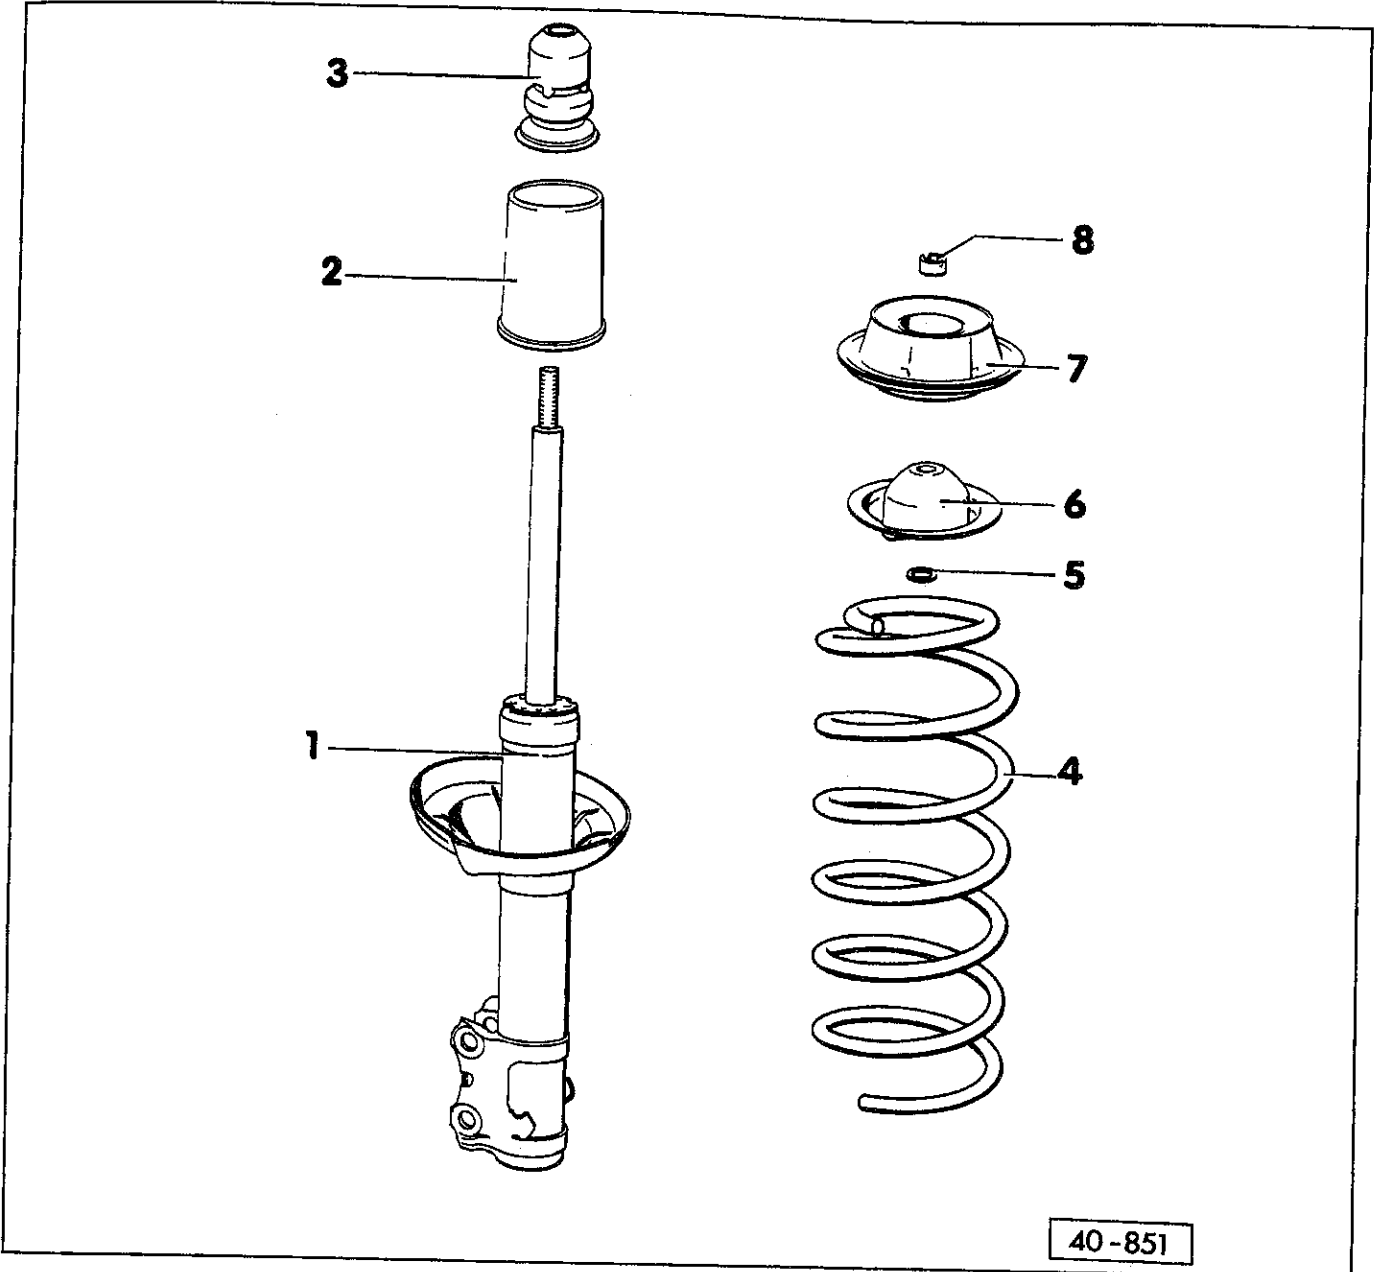
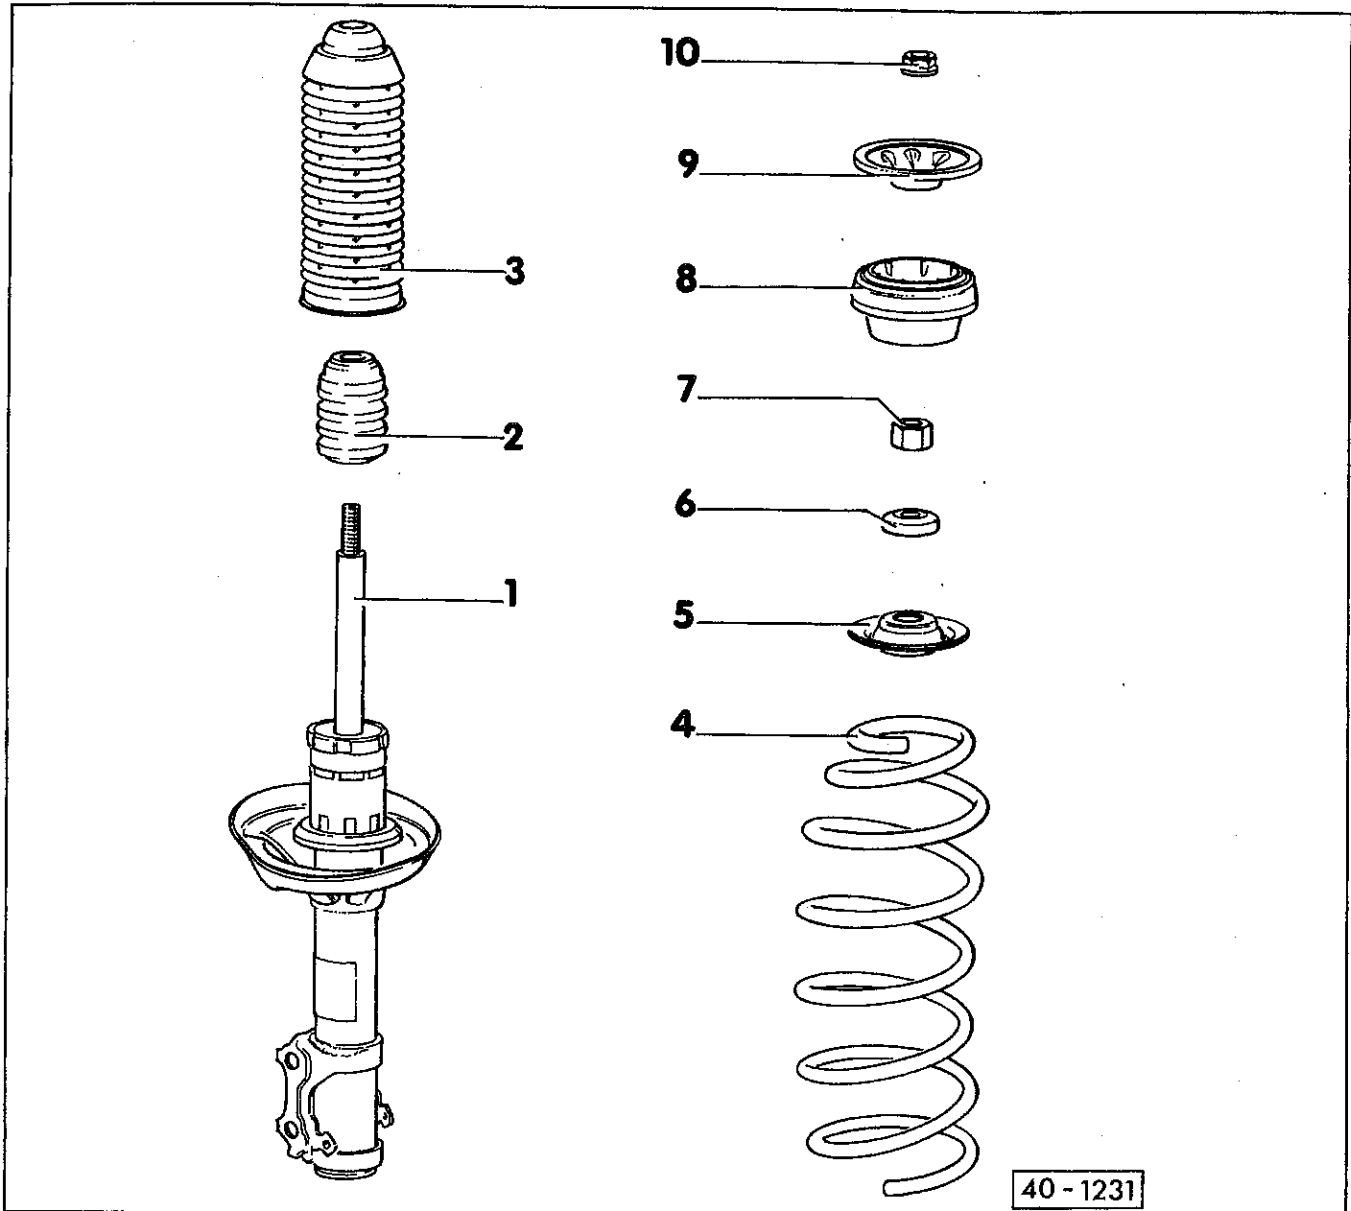

Fig. 9. Exploded view of front strut assembly used on cars with base suspension.
Fig. 10. Exploded view of front strut assembly used on cars with plus suspension.
Front suspension strut application varies depending on suspension system installed. Fig. 9 shows the strut assembly used on cars with base suspension. Fig. 10 shows the strut assembly used on cars with plus suspension.
On cars with base suspension, the retaining nut (Fig. 9, item 8) is a special slotted nut. Use Volkswagen special tool no. VW 524, or equivalent, to loosen and tighten the nut.